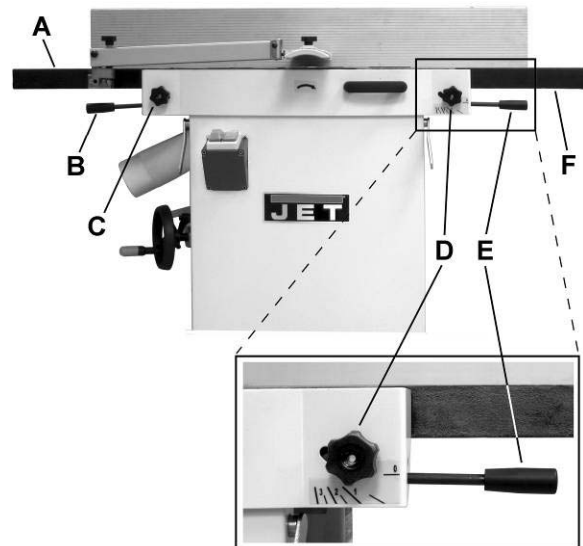

Figure 6
Referring to Figure 6:
5. Place a *straight edge* (D) across the front of the *outfeed table* (F) and extending over the *infeed table* (G). Note the position of the *infeed table* (G). Note the position of the straight edge in Figure 6 with respect to the *fence* (H).
6. Raise the *infeed table* (G) until it contacts the *straight edge* (D).